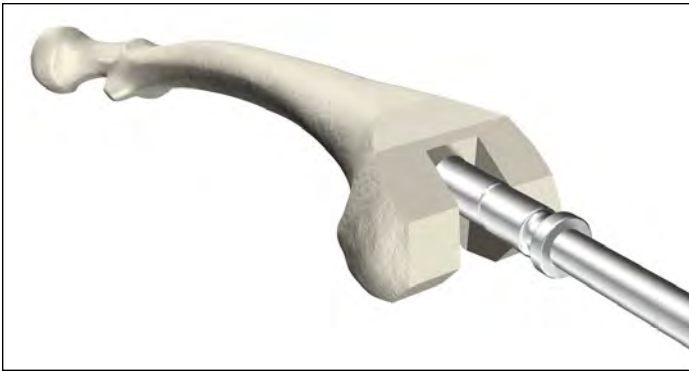

Figure 17
4. If the reamer diameter is less than 16mm, prepare for the boss of the Femoral Component by reaming over the top of the IM Reamer shank with the Boss/Offset Reamer. Ream until the step on the Boss/Offset Reamer lines up with the planned resected bone depth (**Figure 17**).